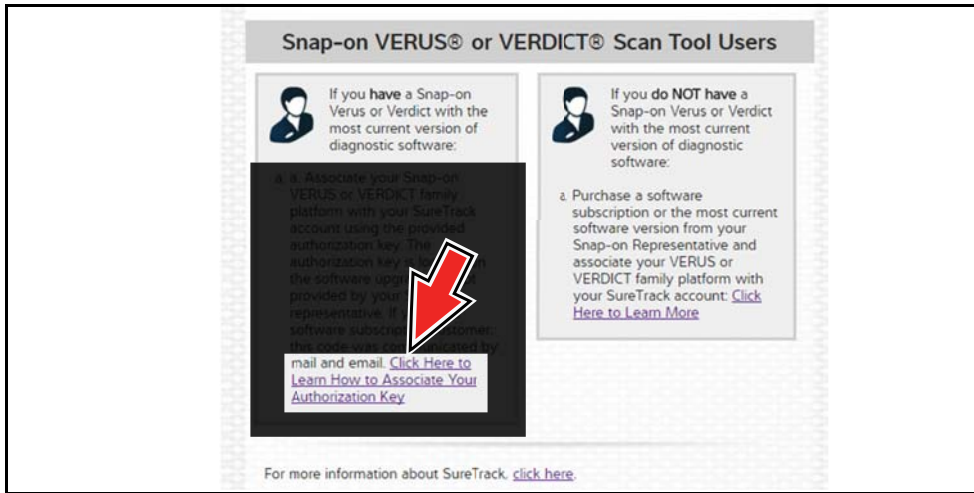

Figure 15-10
When your SureTrack account has expired, and you try to login you are directed to an information window (Figure 15-10).
2. Scroll down and select the link shown in (Figure 15-10)